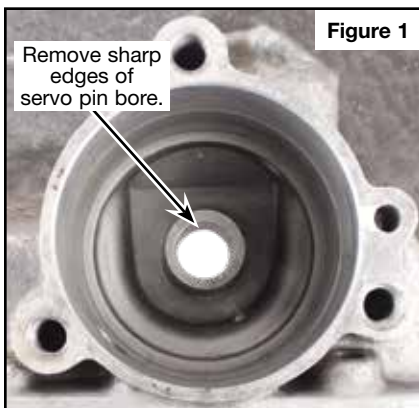

Figure 1
- e. Using round file or fine sandpaper, remove sharp edge of servo pin bore to prevent O-ring damage during installation (**Figure 1**). Clean thoroughly after removing sharp edge.